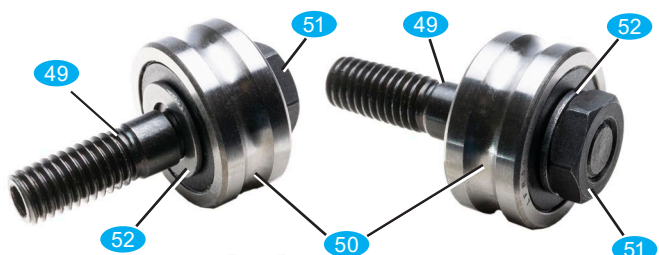

Fig. 1c: Screw on the nut flush with the eccentric bolt
- Screw the nut 51 on the roller side flush with the eccentric bolt 49 (do not tighten, Fig. 1c). Assemble the eccentric roller guides with the hexagon socket on the outside in the upper bores of the portal cheeks. Only loosely tighten the nut 63 on the outside by hand - later the guidance of the Y-axis will be adjusted here and the screw tightened.